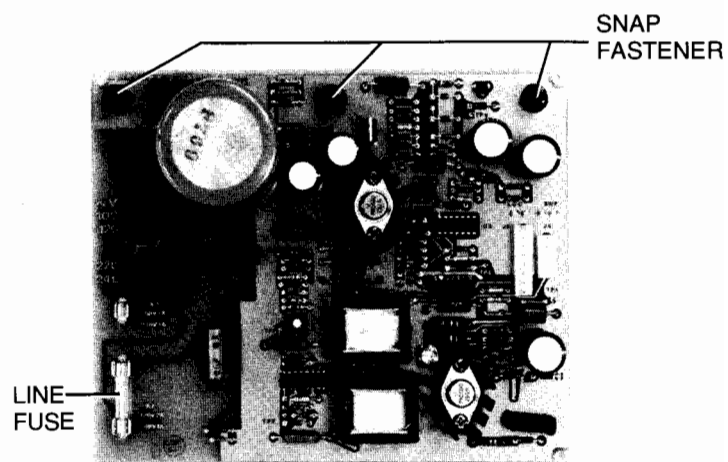

Figure 7-8. 2622A/D Power Supply PCA (02620-60004)
1. At top of the Power Supply PCA, pull outwardly on each of the three snap fasteners securing PCA to mainframe (see figure 7-8 or 7-9).